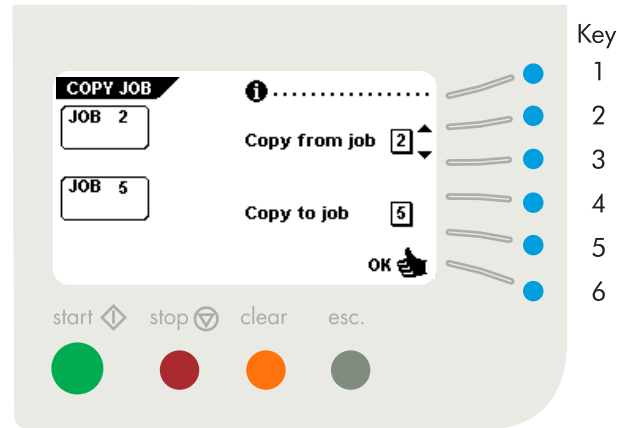

Fig. 33
After pressing key 4 in the "job menu", the display shows the "copy job" menu as shown in fig. 33.